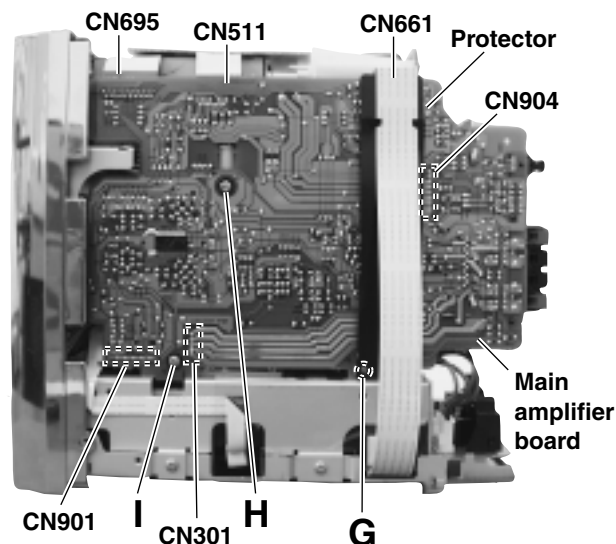

Fig.5
■ Removing the main amplifier board (See Fig.5 and 6)